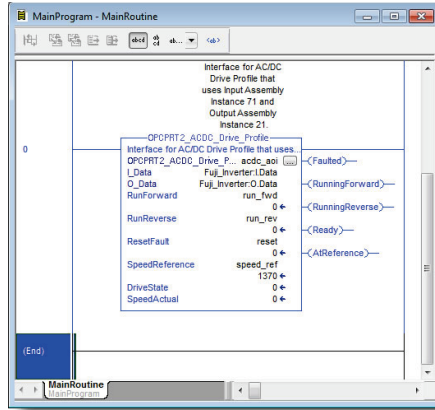

Figure 66: Configure AC/DC Drive Profile AOI
- 10) Edit the add-on instruction according to Figure 66.